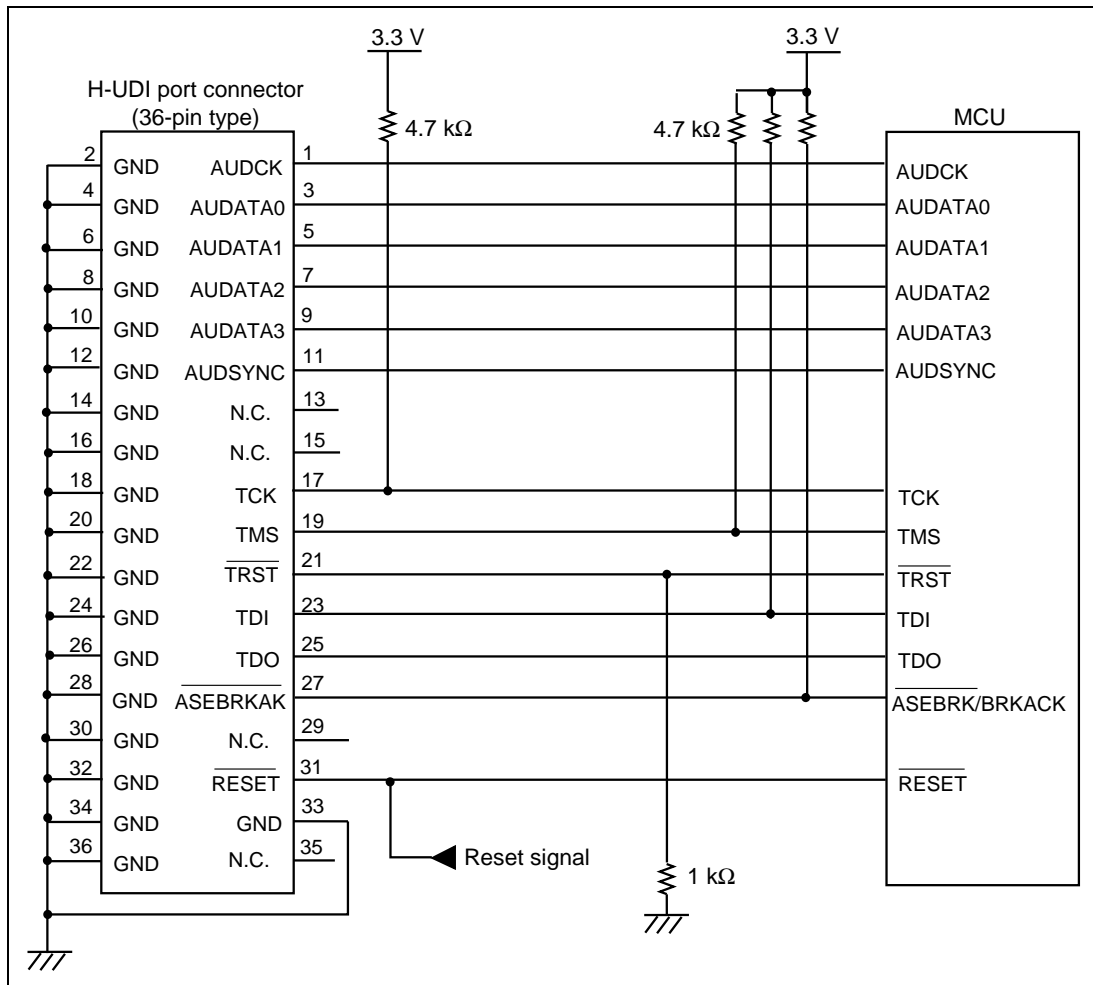

Figure 4.1 Recommended Circuit for Connection between the H-UDI Port Connector and the MCU when Using the Emulator (36-Pin Type)
Figure 4.1 shows a recommended circuit between the H-UDI port connector (36 pins) and the MCU.
4. The resistance values shown in figure 4.1 are recommended.